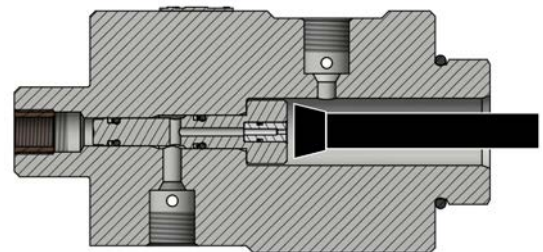

Figure 4 – Seat Holder Installation
- 8.5 Using the large end of *Seat Holder Installer Tool (20033)*, guide seat holder into the body, see Figure 4. Push the seat holder in gently using caution to avoid damaging the seals.
- 9.5 Using the large end of *Seat Holder Installer Tool*, guide seat holder into the body, see Figure 4. Use caution, push the seat holder in gently to avoid damaging the seals.